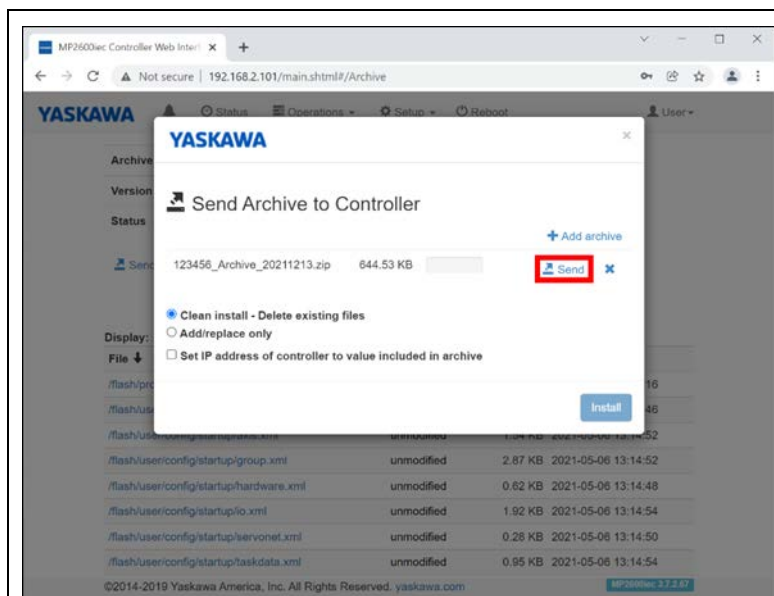

Figure 5-16
- v. Select the “Send” option, located on the right-hand side of the ‘Send Archive to Controller’ dialog box. (Refer to Figure 5-16)